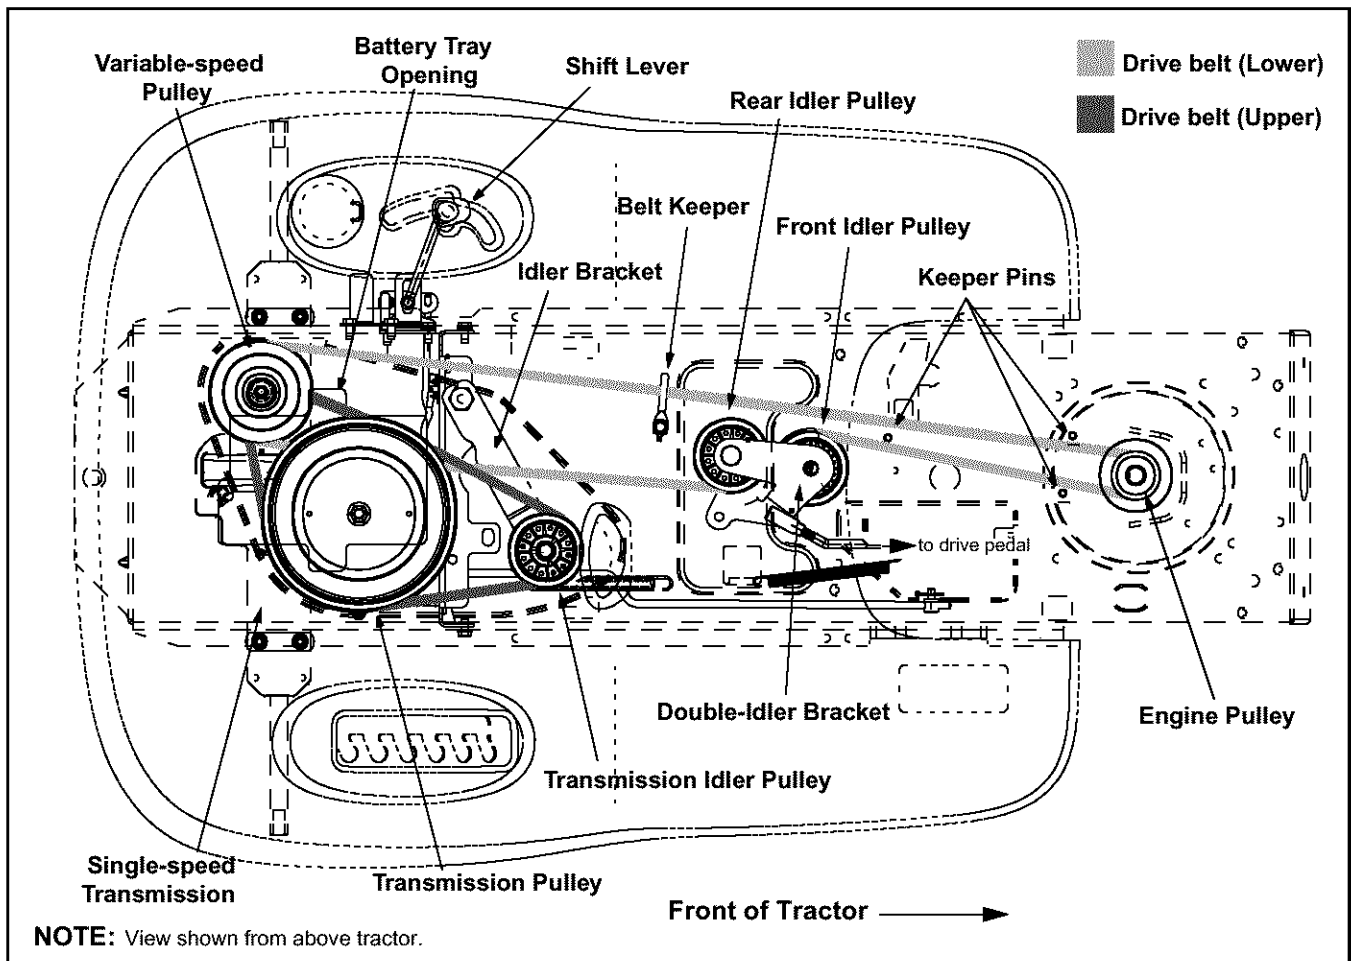

Figure 19
- Locate the transmission idler pulley on the upper drive belt by looking through the battery tray opening. See Figure 19.
- Reroute the new upper drive belt as shown in Figure 19.
- Locate the variable-speed pulley through the battery tray opening. See Figure 19.
- Remove the rear idler pulley from the double-idler bracket while unrouting the belt from around both the rear and the front idler pulley. Refer to Figure 19.
- Remove the drive belt by feeding it from both ends toward the front idler pulley on the double-idler bracket. See Figure 19.
- Route the replacement belt around the pulleys, belt keepers and keeper pins EXACTLY as the old one was routed. Refer to Figure 19.